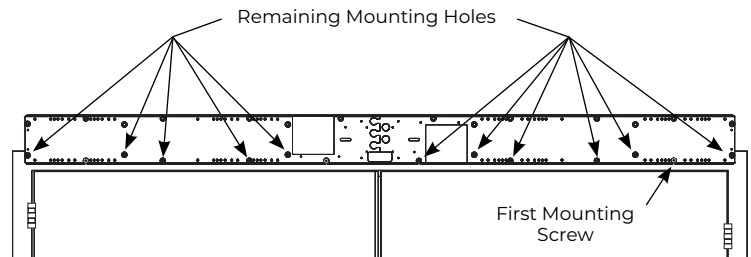

Figure 6
8. Using supplied backplate screw pack in Box 2, insert screw into prepared mounting hole. (Figure 6)
9. Using countersunk holes in backplates as a template, drill/tap remaining eleven (11) mounting holes: 1/4-20 for steel frame or #14 for wood frame. (Figure 6)